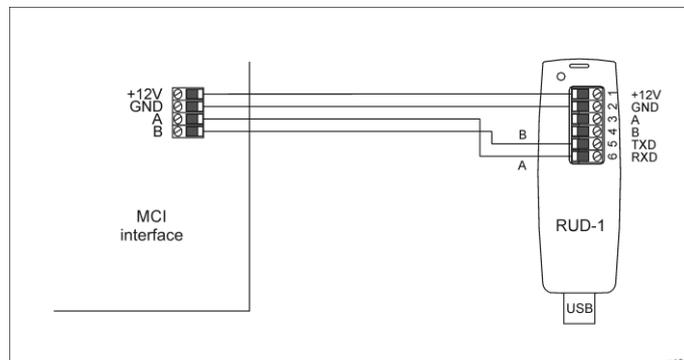

Fig. 2 Connection of the MCI-2 to RUD-1 interface for firmware update
The update requires connection of MCI-2 to computer with RUD-1 interface (fig. 2) and starting RogerVDM software. The latest firmware file is available at www.roger.pl.
1. Connect the device to RUD-1 interface (fig. 2) and connect the RUD-1 to computer's USB port.